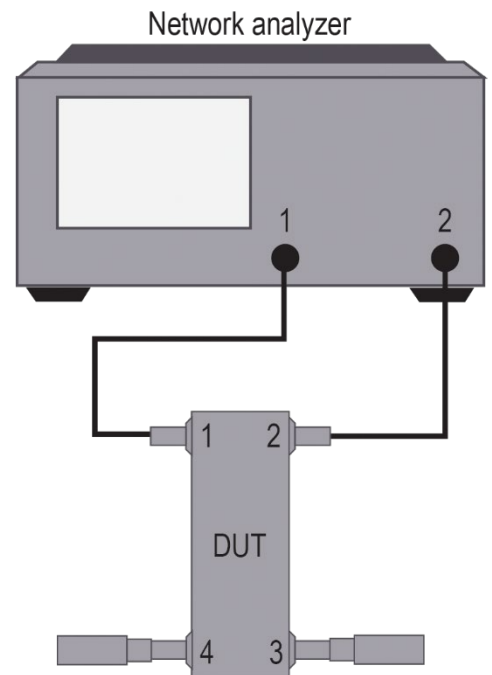

Figure 13. Equipment setup using network analyzer with coupler
2. Calibrate the network analyzer with full 2-port calibration with setup based on network analyzer model being used. The test setup is shown in Figure 13.
4. Connect the device³ under test (DUT) to the network analyzer per Figure 13. The unused port to be terminated with a 50 Ω termination.